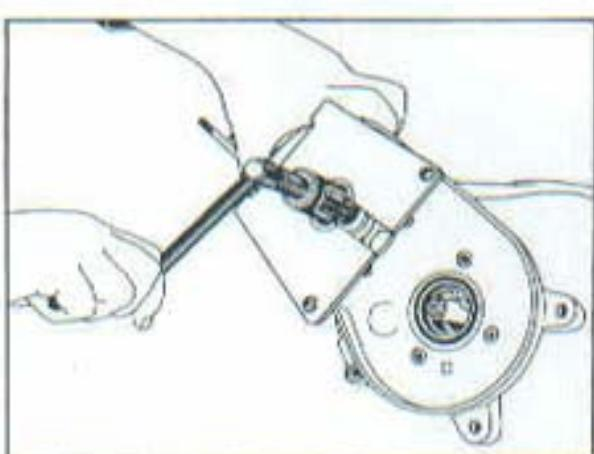

FIG. 13
- c) Pull off the left-side of the crankcase (Fig. 13).